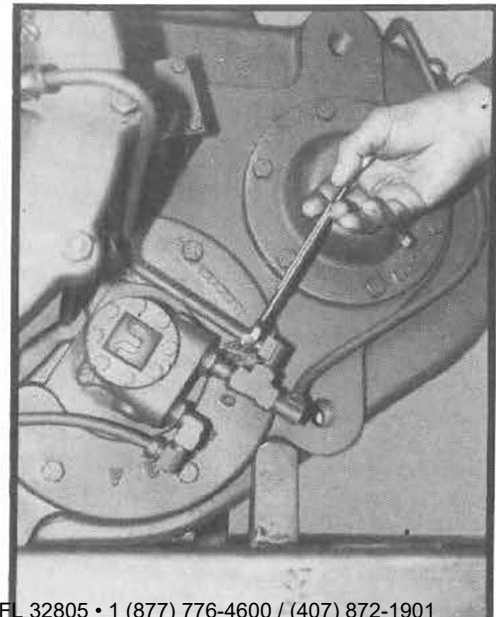

Fig. 2
6. Remove temperature sensor if installed. Disconnect and remove all oil lines on the transfer case. (See fig. 2)